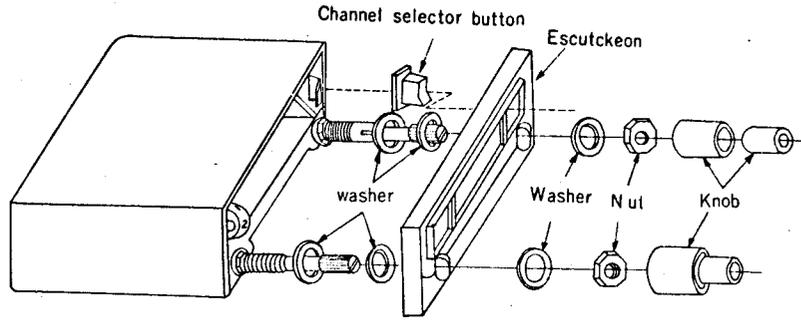

Fig. 1
1. Remove the knobs, escutcheon, and channel selector button as shown in Fig. 1.